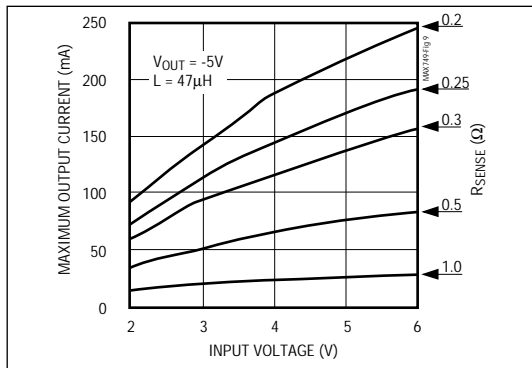

Figure 9a. Maximum Output Current vs. Input Voltage,  $V_{OUT} = -5V$
To maximize efficiency and reduce the size and cost of the external components, minimize the peak current. However, since the output current is a function of the peak current (Figures 9a-9e), the limit should not be set too low.
- In Figures 9a-9e, locate the graph drawn for the appropriate output voltage (which is either the desired output voltage or, if that is not shown, the graph for the nearest voltage more negative than the desired output). On this graph find the curve for the highest  $R_{SENSE}$  (the lowest current limit) with an output current that is adequate **at the lowest input voltage**.
The theoretical design curves shown in Figures 9a-9e assume the minimum (worst-case) value for the current-limit comparator threshold. Having selected the current-sense resistor, the maximum current limit is given by  $180mV/R_{SENSE}$ . Use the maximum current-limit figure when choosing the transistor, coil, and diode.